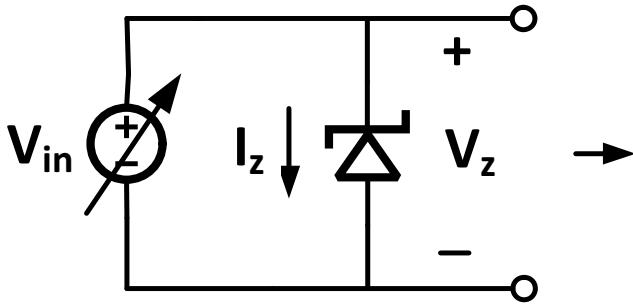

Figure 4: Zener Diode Simulation Circuit
- At this point you must verify that the zener diode operates in the correct region of operation. Perform a DC sweep simulation of the circuit shown in Fig. 4. You can sweep voltage  $V_{in}$  from 4.4 – 4.8V. Plot  $I_z$  vs  $V_{in}$  and verify that the minimum current through the zener diode is above the knee of the  $I_z$  vs  $V_{in}$  curve.